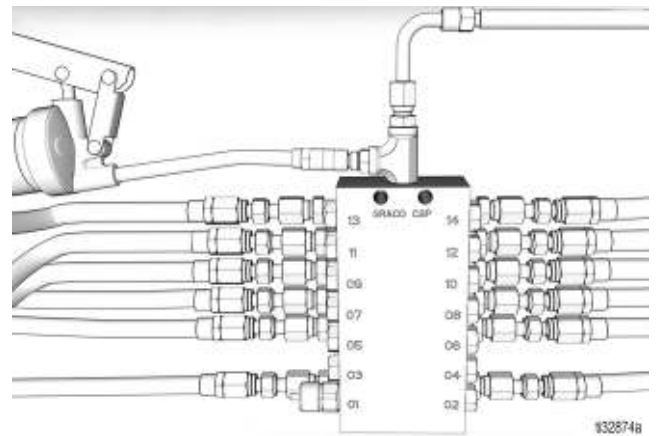

FIG. 30
- Connect a grease gun to the grease zerk on the CSP valves to fill them with grease (FIG. 30).